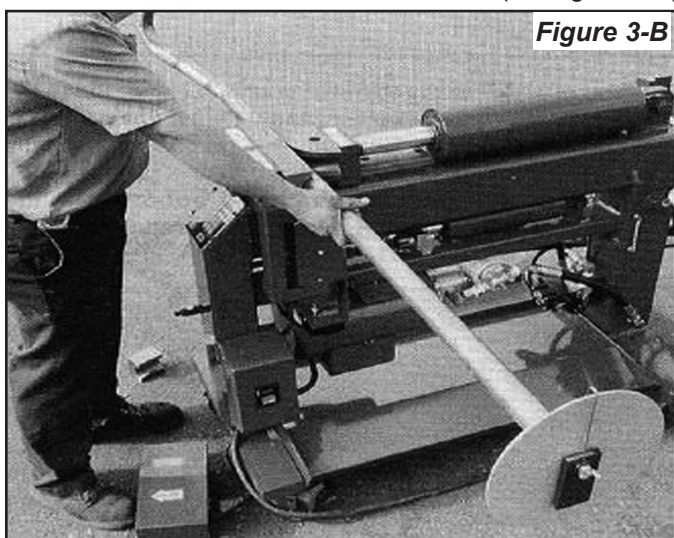

Figure 3-B
28. On bend number five no special instructions are shown. In this case, return the ROTATION DIAL to the right side and install the full BACK SHOE. A HALF SHOE is not needed for this bend. (See figure 3-B.)